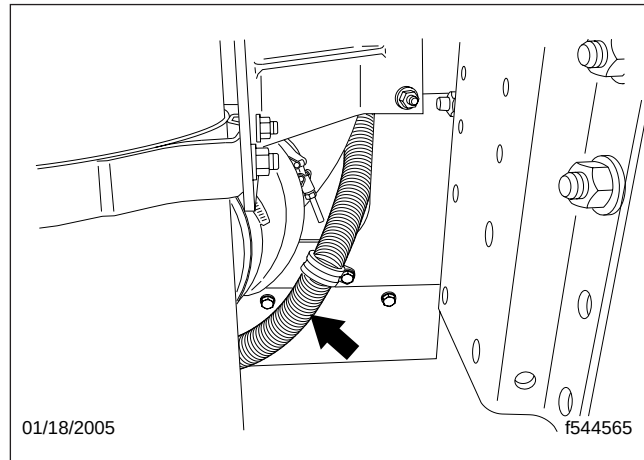

Fig. 2, Correct Line Routing
8. Route the hydraulic line through the radiator support bracket. See Fig. 2.
NOTE: If the hydraulic line has to be rerouted, route the line through the radiator support bracket. See Fig. 2.